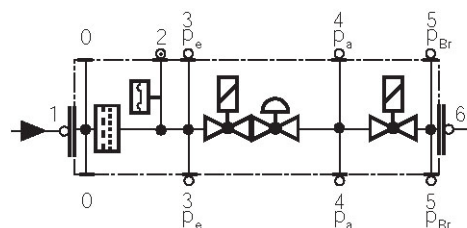
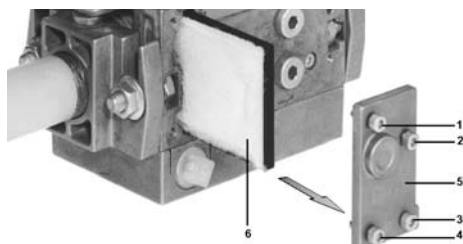

Fig. 23
Fig. 24
- Change the filter if the pressure difference between pressure connection 1 and 2 (Fig. 23-Fig. 24) $\Delta p > 10$ mbar.
- Change the filter if the pressure difference between pressure connection 1 and 2 (Fig. 23-Fig. 24) is twice as high compared to the last check.